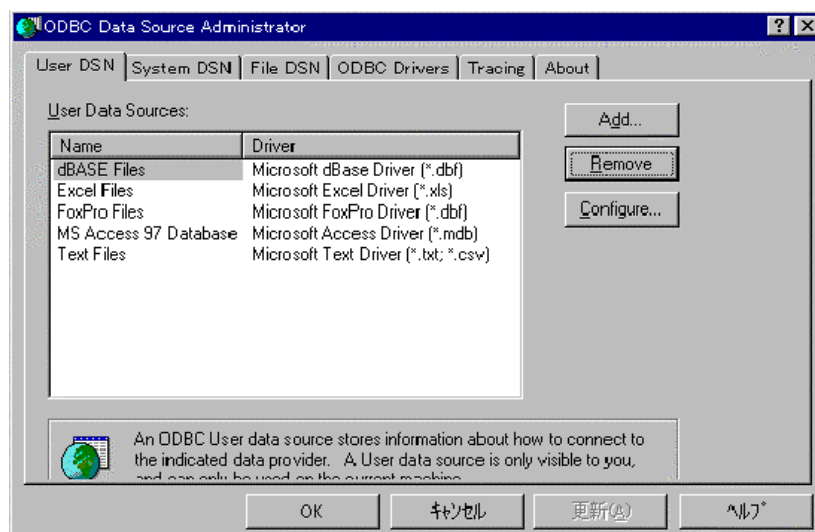

Figure 6-2. ODBC data source administrator
2. Click on the ODBC icon and the display is switched as Figure 6-2 to display the ODBC data source administrator. Click on “Add” button.